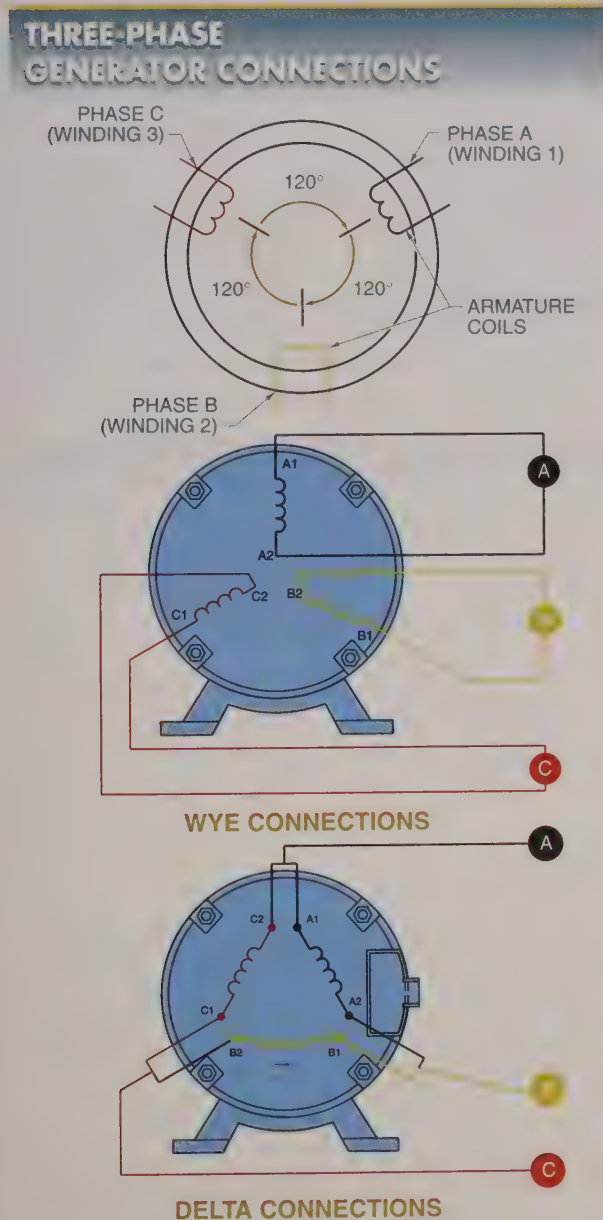

Figure 10-5. When the six leads of a 3 ϕ generator are brought out, they are connected in a delta connection or a wye connection.
A 3 ϕ AC generator has six leads coming from the armature coils. When these leads are brought out from the generator, they are connected so that only three leads appear for connection to the load. Armature coils can be connected in a wye (Y) connection or a delta (Δ) connection. The manner in which the leads are connected determines the electrical characteristics of the generator output. See Figure 10-5.